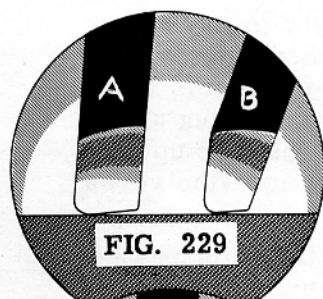

FIG. 229
Similar in shape to the tool for shaping horizontal surfaces is the roughing tool for down or vertical cutting (Fig. 229). The tool is ground to an angle of about  $85^{\circ}$  with a small radius on the nose. The side-cutting edge should be parallel with the side of the tool (A) or may be offset slightly (B) to give clearance for the tool holder.